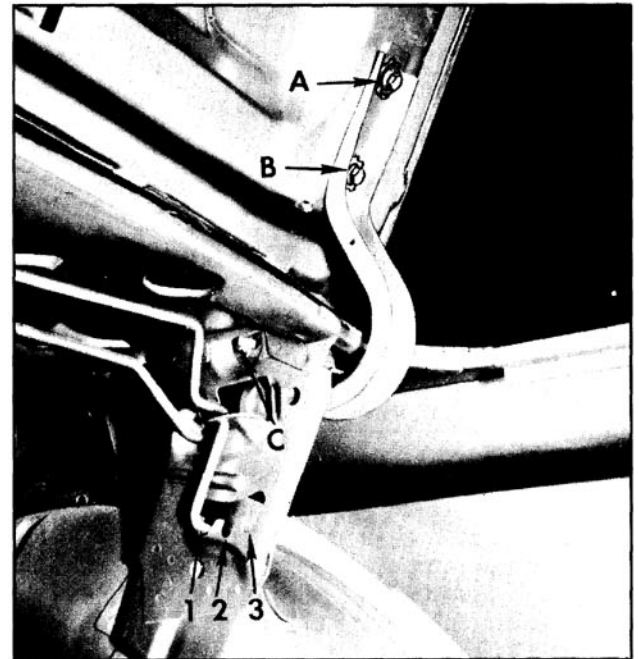
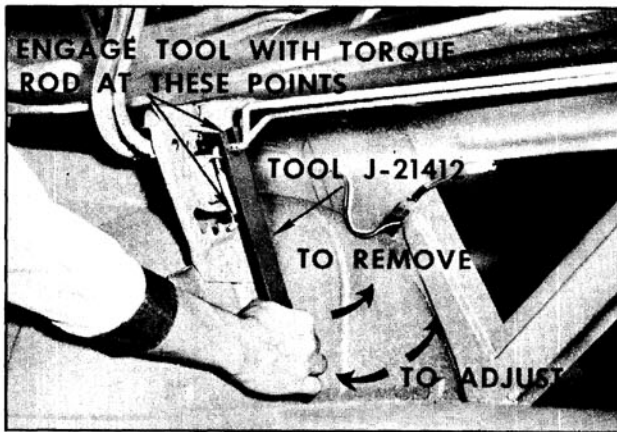

Fig. 16-458 Hinge and Torque Rod
Fig. 16-459 Torque Rod Adjustment
3. With aid of a helper, remove lid attaching bolts "A" and "B" (Fig. 16-458) and remove rear compartment lid.
1. To adjust compartment lid forward or rearward, or from side to side in body opening, loosen both hinge strap attaching bolts, "A" and "B" (Fig. 16-458) and adjust lid as required; then tighten bolts.
- a. To raise front edge of lid at hinge area, place shim between lid inner panel and forward portion of one or both hinge straps at attaching bolt "B". (Fig. 16-458)
- b. To lower front edge of lid at hinge area, place shim between lid inner panel and rearward portion of one or both hinge straps at attaching bolt "A". (Fig. 16-458)
If the torque rod is located in the most forward notch ("1", Fig. 16-458), the amount of effort required to open the lid is the greatest and to close the lid is the least.
If the torque rod is located in the most rearward notch ("3", Fig. 16-458), the amount of effort required to open the lid is the least and to close the lid is the greatest. Figure 16-459 illustrates how to use Tool J-21412 to perform these adjustments.
2. Engage torque rod adjusting Tool J-21412 with torque rod to be removed as shown in Fig. 16-459.
5. Remove hinge to lid inner panel attaching bolts "A" and "B". (Fig. 16-458)
6. Bend back hinge pin retaining tab ("C", Fig. 16-458); then remove hinge pin and hinge.